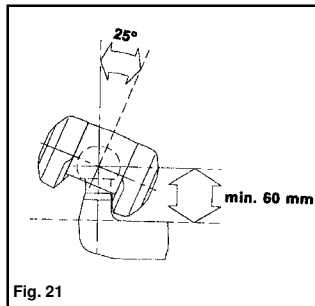

Fig. 21
- 2) Not suitable for use with overrun devices which can revolve above 25° (Fig. 21).
- 3) Swan Neck towbars (fixed or detachable) are suitable for use with the AKS 2004 providing they comply to EC Directive 94/20 and have the required minimum 60 mm clearance, measured from the centre of the towball (Fig. 21).